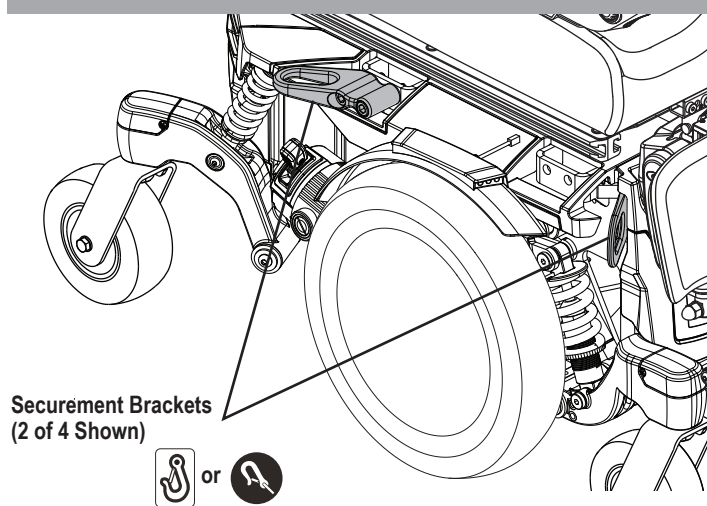

Figure 5. Transit System Securement Brackets
If your power chair is equipped with a transit securement system, it is equipped with manufacturer installed front and rear securement brackets and may be equipped with positioning belt anchoring brackets. See **figure 5**. Refer to the supplement provided with your power chair for information on how to use the transit securement system.
- Attach the four (4) tie-down straps to only designated, labeled transit securement points indicated by anchor symbols on the power chair. **See figures 5 and 6.** Tighten the straps sufficiently to remove all slack.